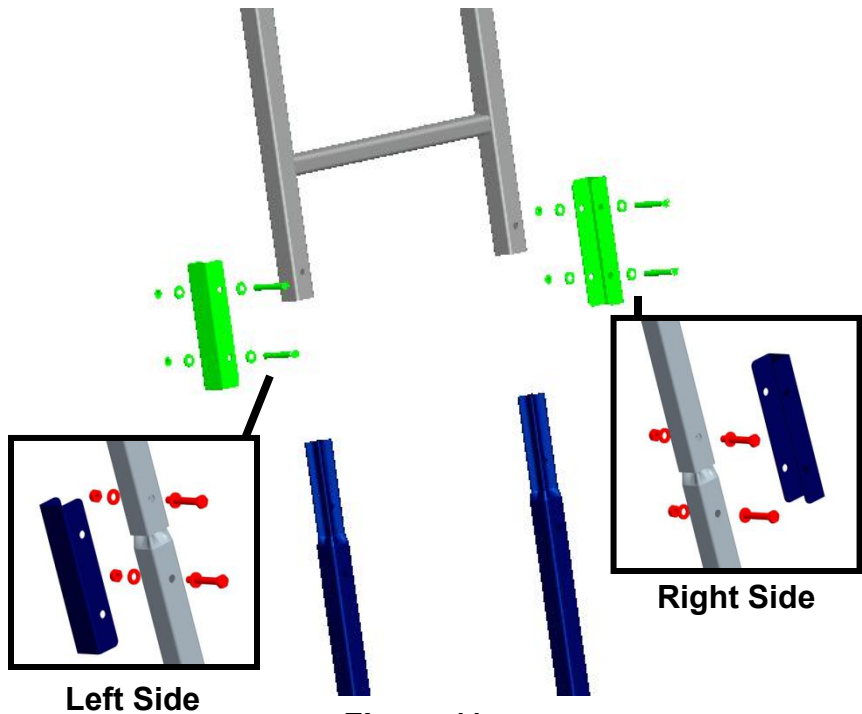

Figure 11
Locate Ladder Section #2 (#10) and two U-Brackets (#20). Install Middle Ladder Section #2 (#12) and two U-Brackets (#20) onto the Upper Ladder Section #3 (#10) using four (4) M6x40 Bolts, eight (8) Steel Washers and four (4) Locknuts as shown in Figure 11.